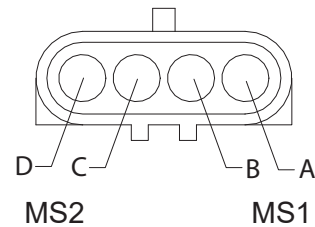
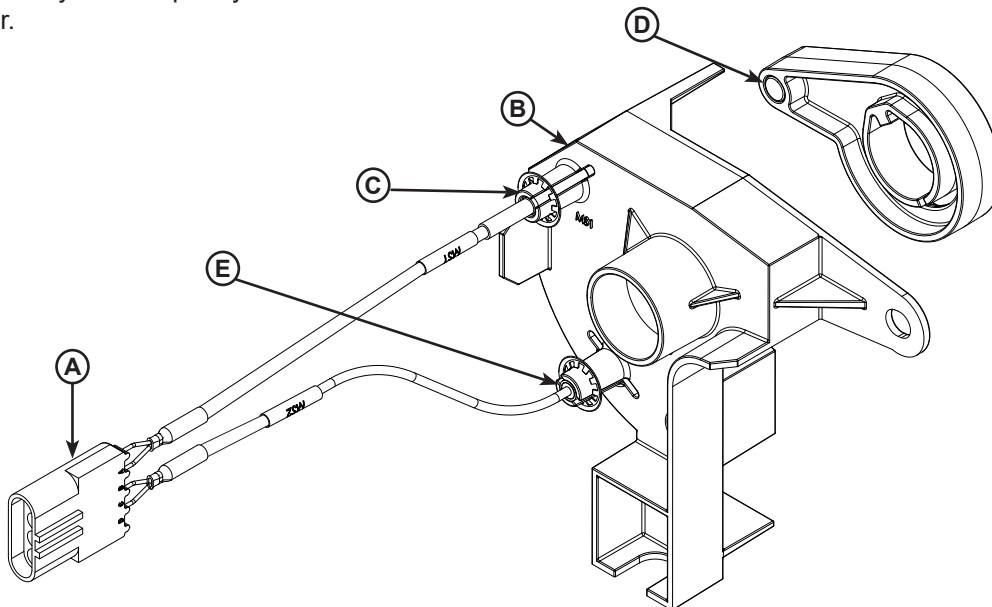

Figure 28
Figure 29
5. Attach multimeter leads to pins "A" and "B" for **Magnetic Switch 1**. Figure 28. This contact is normally open and closes when the magnet (D) is near the sensor (C). Figure 29.
6. Attach multimeter leads to pins "C" and "D" for **Magnetic Switch 2**. Figure 28. This contact is normally open and closes when the magnet (D) is near the sensor (E). Figure 29.